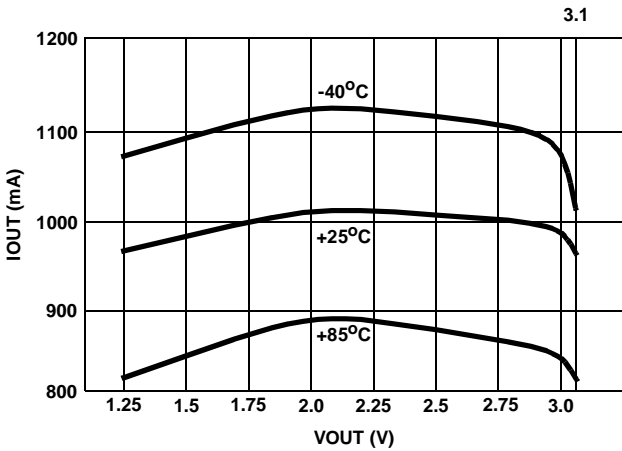
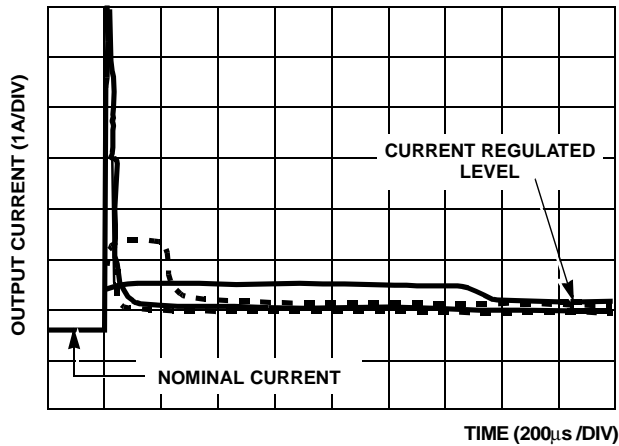
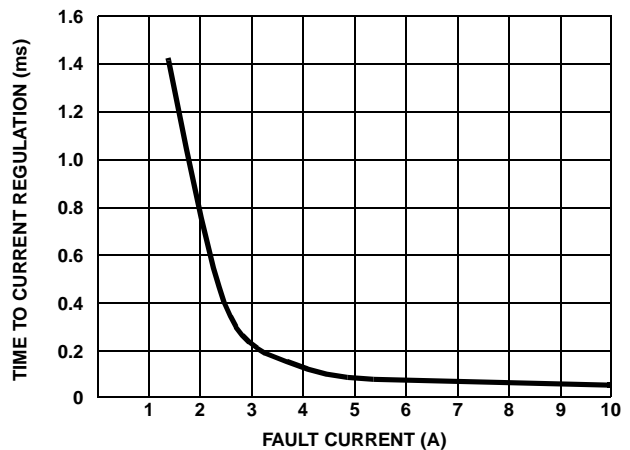

FIGURE 4. CURRENT REGULATION vs  $V_{out}$  ( $V_{IN} = 3.3V$ )
FIGURE 6. OC TO CR SETTLING TIME WAVEFORMS
FIGURE 7. CR SETTLING TIME vs FAULT CURRENT
The ISL6119 has integrated current sensing on the power MOSFET that allows for rapid control of OC events. Once an OC is detected the ISL6119 goes into its current regulation (CR) control mode. The ISL6119 CR level is set to a nominal 1A. This current regulation is  $\pm 25\%$  over the full operating temperature and voltage bias range. See Figures 4 and 5 for illustrative curves. The speed of this control is inversely related to the magnitude of the OC fault. Thus a hard over current is more quickly controlled than a marginal OC condition. See Figure 6 for waveforms illustrating this and Figure 7 for an accompanying graph.